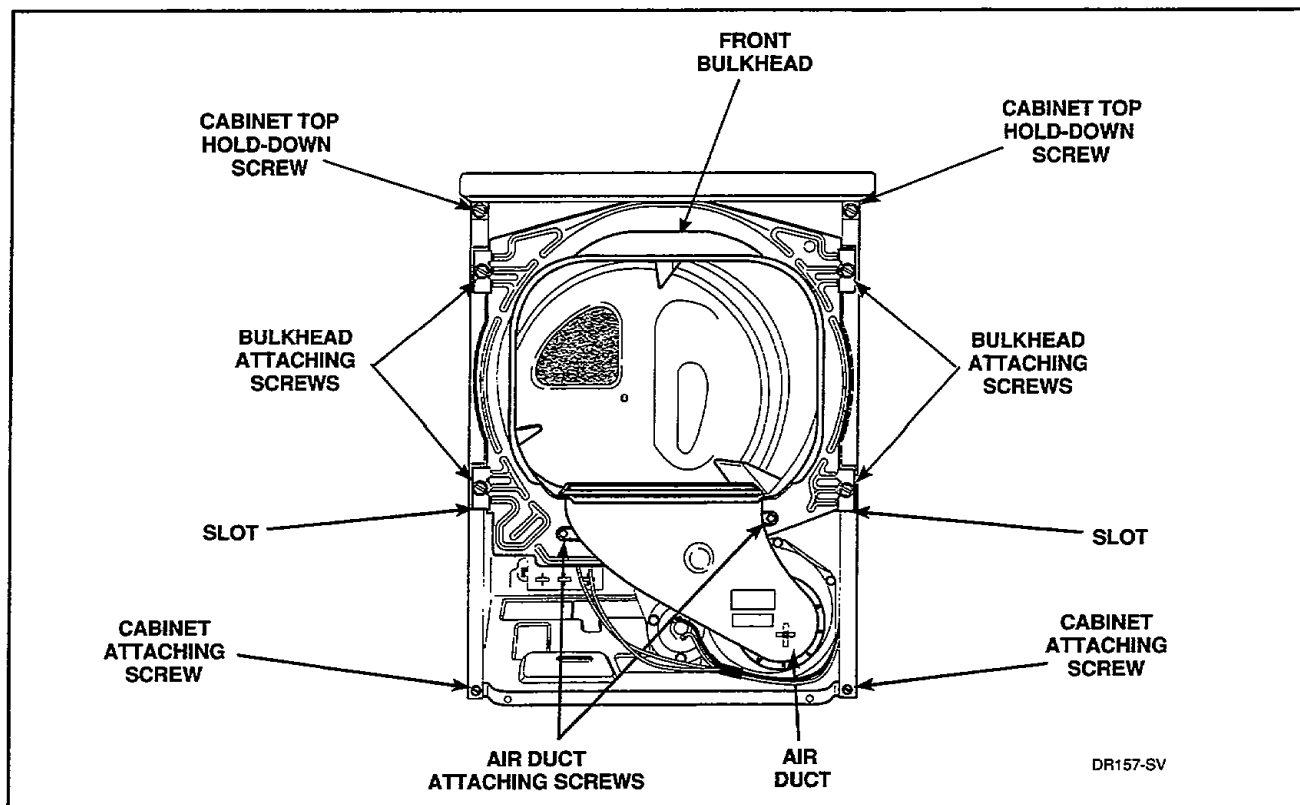

Figure 33
- Remove four screws holding bulkhead to front flange of cabinet and lift complete bulkhead assembly out of slots in cabinet, *Figure 33*.
- Remove four screws holding bulkhead to front flange of cabinet. Then, lift complete bulkhead assembly out of slots in cabinet, *Figure 33*.
- Remove four screws holding bulkhead to front flange of cabinet. Then lift complete bulkhead assembly out of slots in cabinet, *Figure 33*.
- Loosen two cabinet top hold-down screws, *Figure 33*.
- h. Remove four screws holding bulkhead to front flange of cabinet. Then, lift complete bulkhead assembly out of slots in cabinet, *Figure 33*.